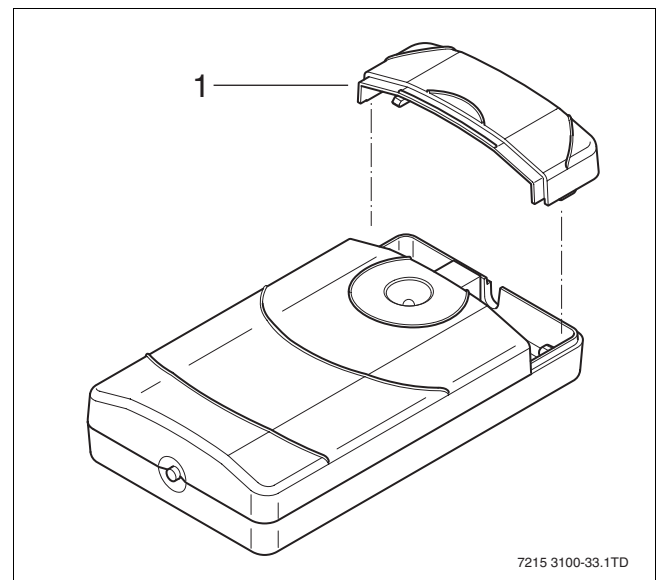

Fig. 33 Receiver bracket
- Remove the receiver terminal cover (→ fig. 33, item 1).